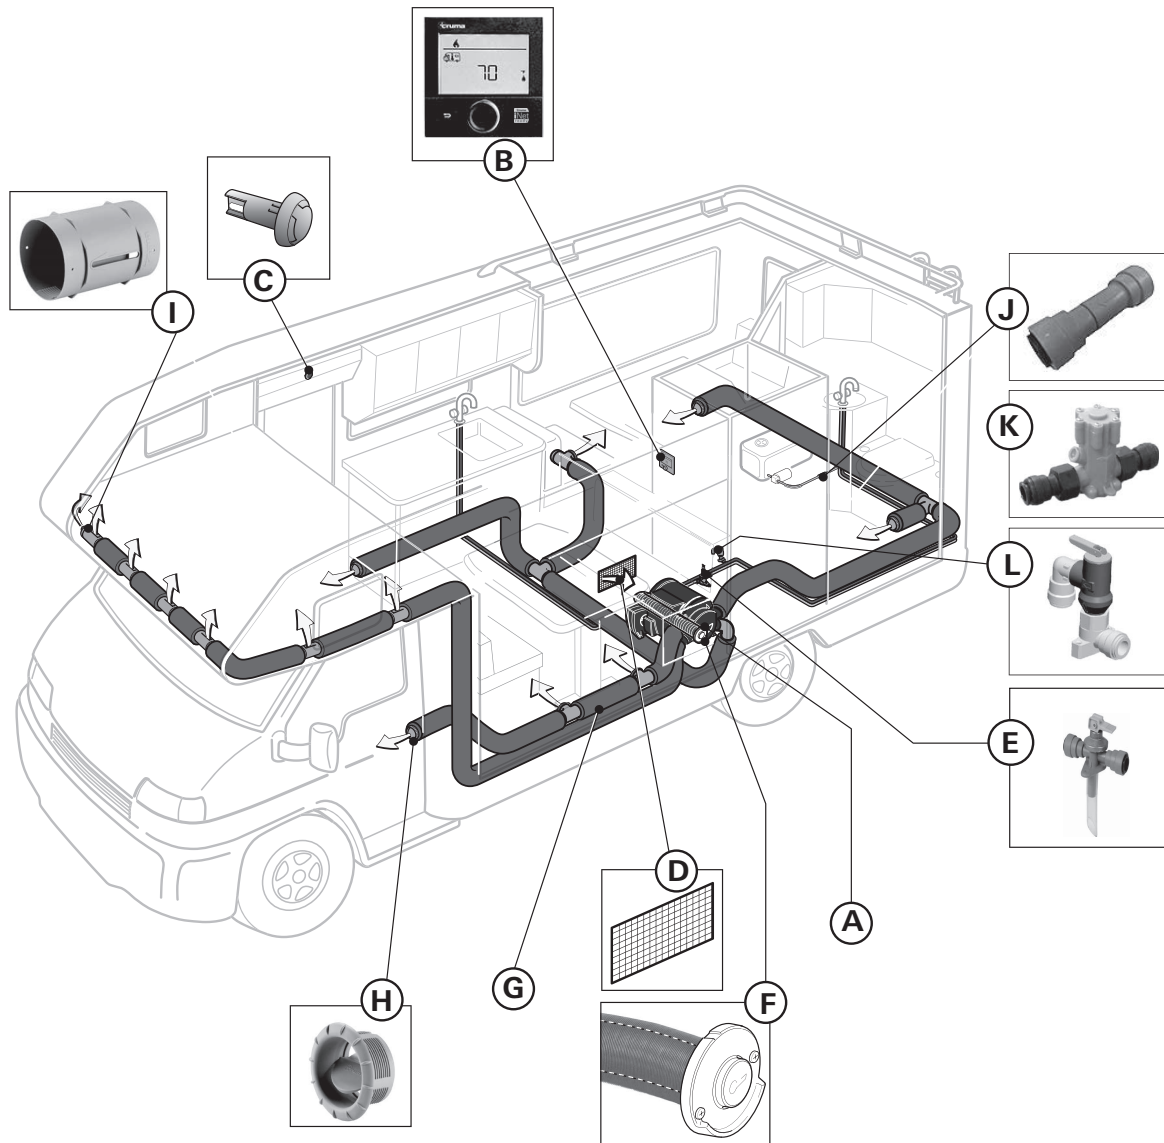
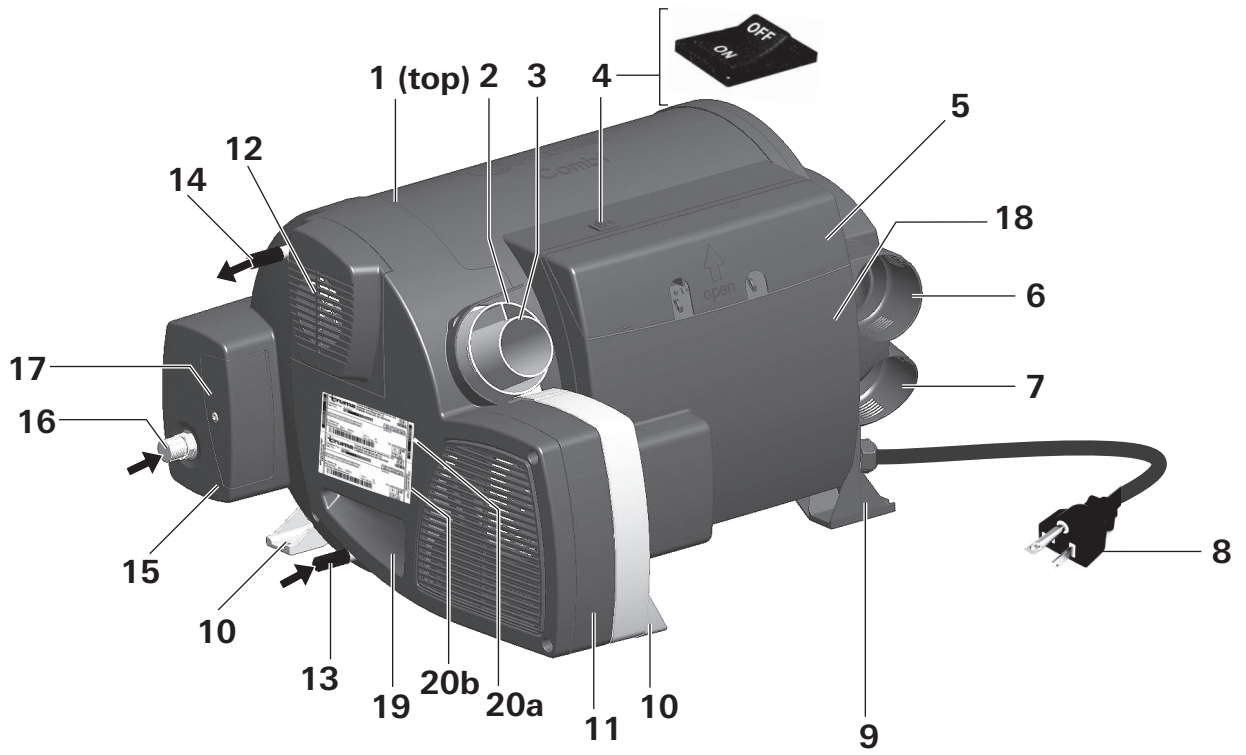

Fig. 1
Fig. 2
- Keep the area in front of the warm air outlets (Fig. 1 – H) free of combustible or heat-sensitive materials. Do not put any material into the warm air outlets.
- In order to avoid overheating of the Truma Combi furnace, keep the air inlets of the Truma Combi furnace (Fig. 2 – 11), the air openings to the area in which the Truma Combi furnace is installed (Fig. 1 – D) and the spacing around the Truma Combi furnace free of obstruction.
- To ensure clean combustion, keep the wall cowl free of obstruction. Do not lean any objects against the wall cowl (Fig. 1 – F).
- Ventilation air can reach 250 °F (121 °C) at the warm air outlets. Always check the air temperature before varying the air throttle position (Fig. 1 – H).
- Never actuate the pressure relief valve (Fig. 1 – L) as long as the Truma Combi furnace is under pressure and/or still hot.
- Never actuate the drain valve (Fig. 1 – E) as long as the Truma Combi furnace is under water pressure and/or still hot.
The switch (Fig. 2 – 4) shuts off the power to the safety gas valve and the gas supply to the furnace. If you want to make sure that the gas supply to the furnace is off, turn the switch to the OFF position.